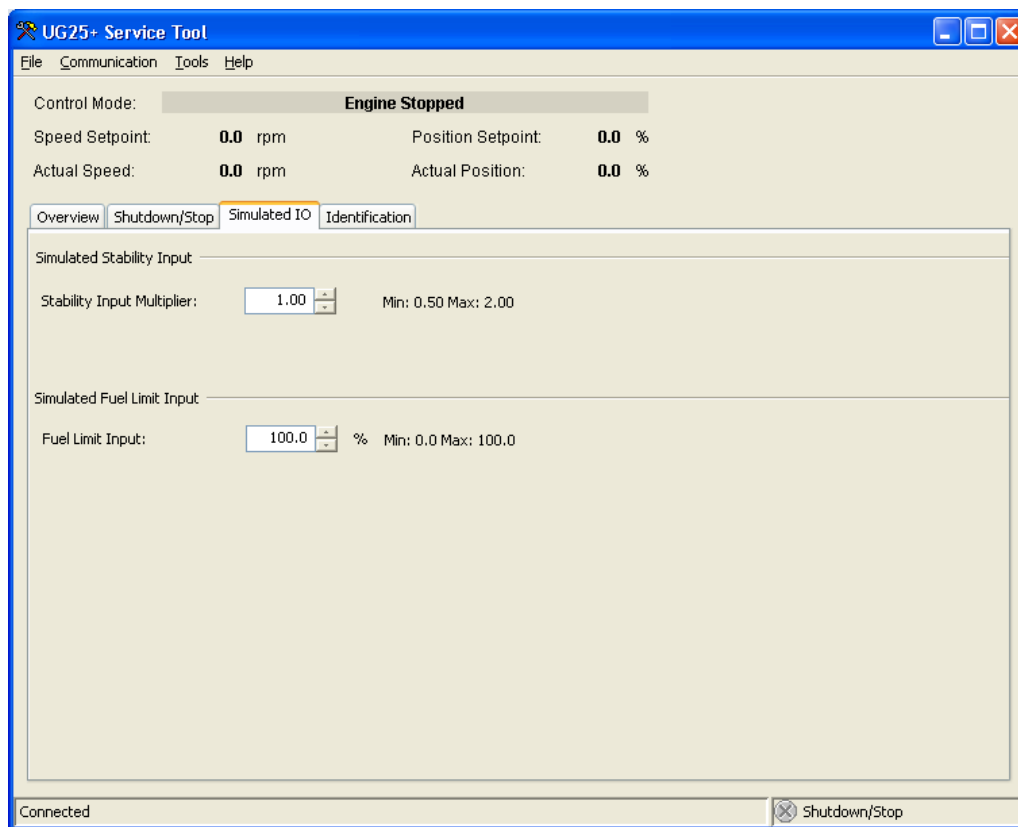

Figure 5-5. Service Tool – Simulated I/O Tab
- Simulated I/O (see Figure 5-5)
While communicating to the Service Tool, Stability and Load Limit inputs (Aux 3 and Aux 4) are not functional since these input pins are used for both Input and for serial communications. The Simulated I/O screen (Figure 5-5) is provided to facilitate operational testing while connected to the Service Tool.